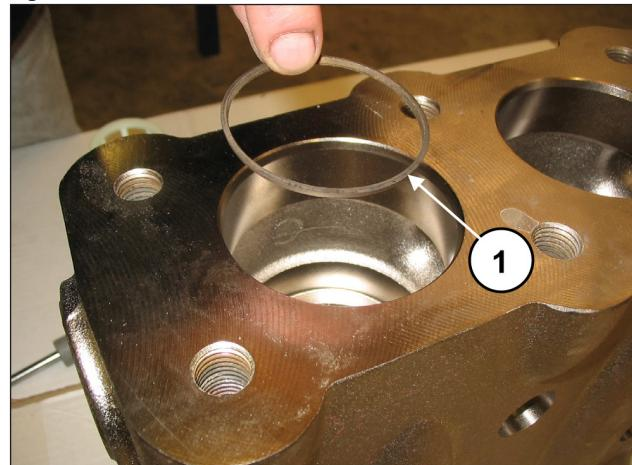

Fig. 119
Insert the anti-extrusion ring, exploded view pos. ①, Fig. 119.